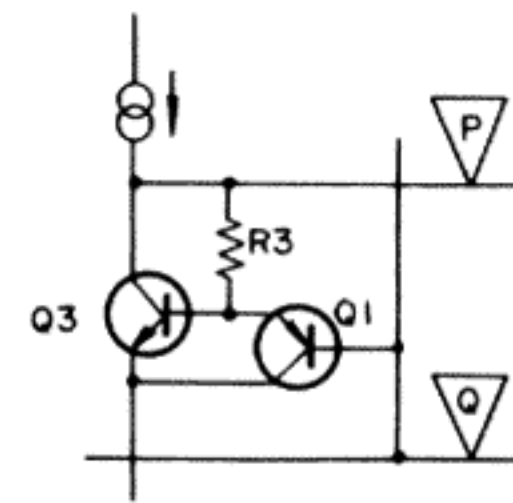

Fig. 6 NSA circuit
rent, the base of  $Q_1$  and point (Q) may be brought to the same level (see Fig. 6) on an AC basis (level fluctuations due to the signal) by a simple shift in DC level. Furthermore,  $Q_1$  may be considered emitter-follower with  $R_3$  as the emitter resistance.